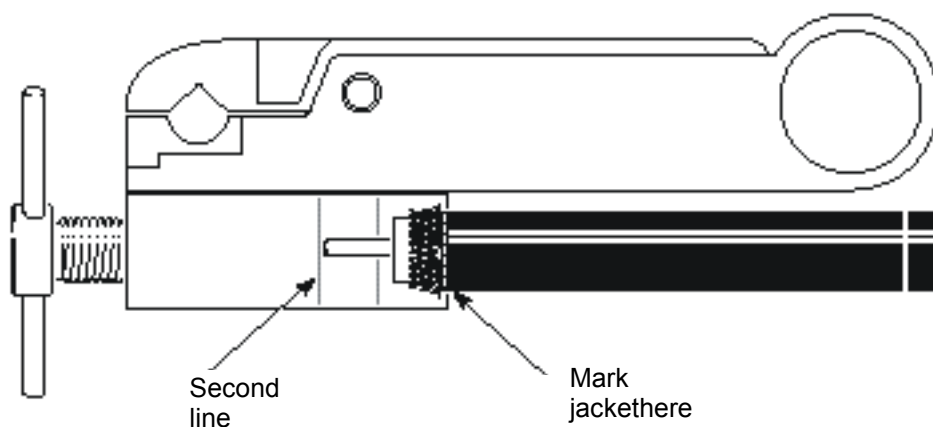

Figure 33 – Measuring and marking the 5916 cable
- Position the dielectric at the base of the stripper/activator tool and measure the length of the center conductor against the first mark on the activator. *Figure 33* identifies the activator base and markings. If necessary, trim the conductor with circular wire cutters.
- Position the center conductor at the second line on the stripper/activator tool and mark the cable jacket with your thumbnail at the base of the activator; see *Figure 33*.